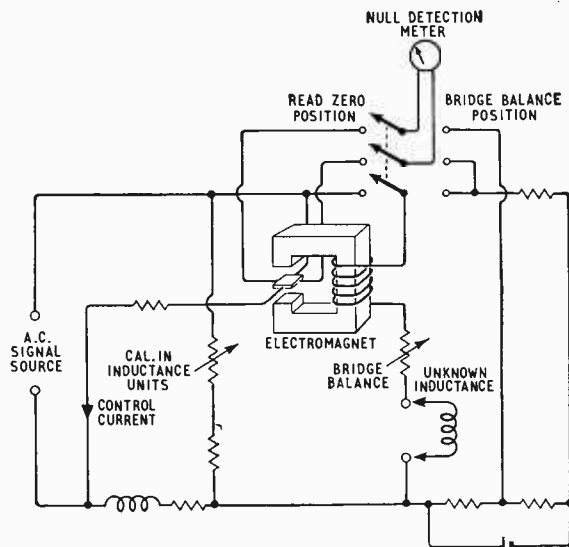

Fig. 5. Hall-effect inductance meter combined with resistance bridge.
**Hall-effect inductance meter**, using a Hall element to detect the phase difference between the element control current and the magnetic flux density of the applied field, was described by M. Nalecz, Z. Dunajski, W. Torbicz and H. Ziomecki of the Institute of Automatic Control, Polish Academy of Sciences, Warsaw. In Fig. 5 the energization voltage from the a.c. signal source (which can be 50 c/s mains) is applied across the Hall element, producing a control current in phase with it, and also across a reactive circuit, including the electromagnet and unknown inductance, in which there is a phase difference between the current and the energization voltage. The electromagnet applies a magnetic field to the Hall element which is placed in its air gap. When the unknown  $L$  is zero (short circuited terminals), by a suitable choice of circuit components the phase difference between the control current  $I_c$  and the magnetic flux density  $B$  is arranged to be  $90^\circ$ . When an inductance is connected to the terminals the phase shift will differ from  $90^\circ$  causing the Hall element to give a voltage, the d.c. component of which is
Actually, the arrangement in Fig. 5 provides for measurement of the inductor's resistance and for a null-balance measurement of inductance giving greater accuracy and independence of signal source variations. When the switch is thrown to the "bridge balance" position the inductor's resistance can be measured on the resulting d.c. Wheatstone bridge by adjustment of the calibrated "bridge balance" variable resistor. When